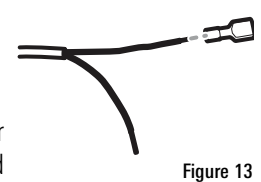

Figure 13
1. Slide the included spade clips over the power cable wires and crimp the connections closed with a crimp tool (Figures 13 and 14).